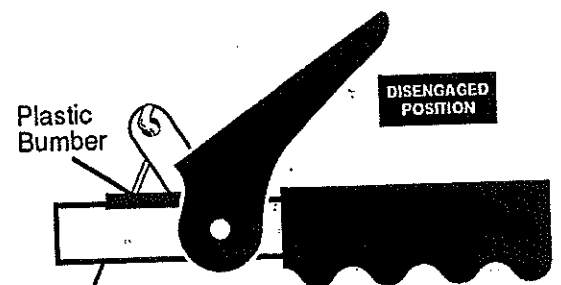

FIG. 2B-SERV&ADJ
- Release control lever. **NOTE:** Lever must contact plastic bumper (See FIG. 2B-SERV&ADJ).